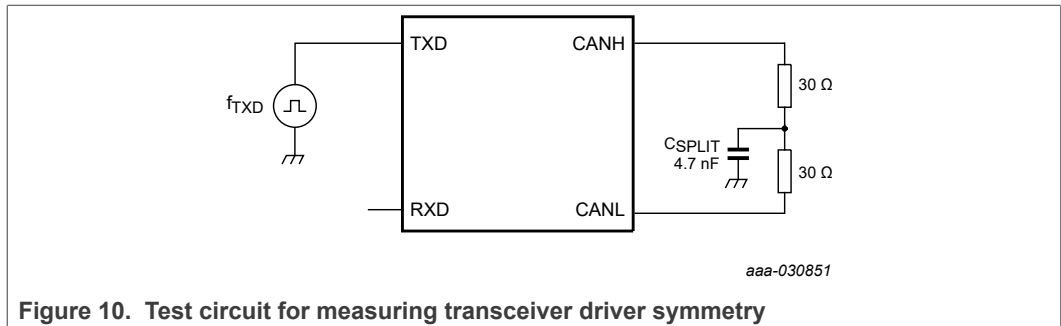

Figure 10. Test circuit for measuring transceiver driver symmetry
- [1] Only the TJA1042T(K)/3 and TJA1042BT(K) variants have a V_{IO} pin; for the TJA1042T and TJA1042CT variants, the V_{IO} input is internally connected to V_{CC} .
- [7] The test circuit used to measure the bus output voltage symmetry (which includes CSPLIT) is shown in Figure 10.